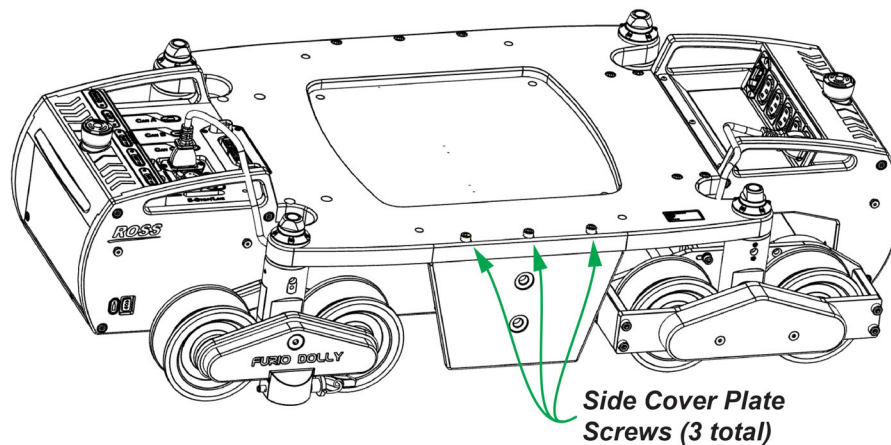

Figure 5 - Dolly Base Side Cover Plate
2. Using a 5 mm hexagonal wrench, remove the three screws securing the side cover plate as shown in **Figure 5**.